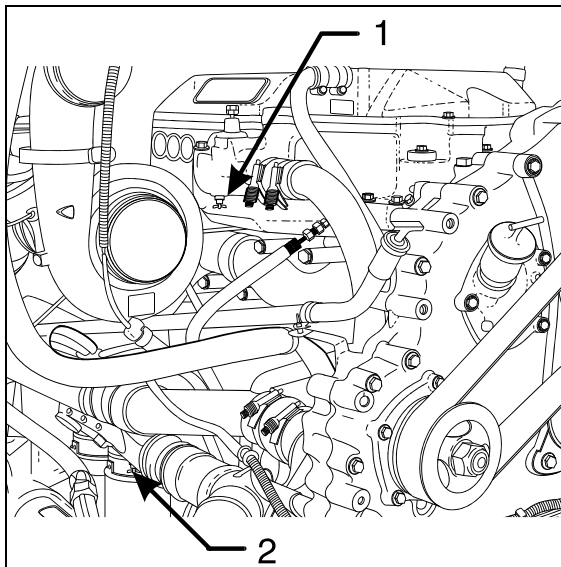

FIGURE 7: ENGINE COOLANT DRAIN COCKS 05074
4. Open drain cock at bottom of thermostat housing to drain the coolant trapped above the thermostats (1, Fig. 7).
6. Open engine drain cock (2, Fig. 7).